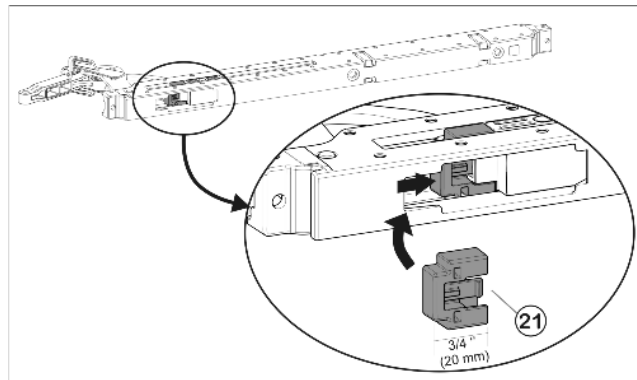

Fig. 40
- ▶ Fit opening limiter (90°) *Fig. 40 (21)* supplied: insert it into the soft stop mechanism from the side and push in until it audibly snaps into place.